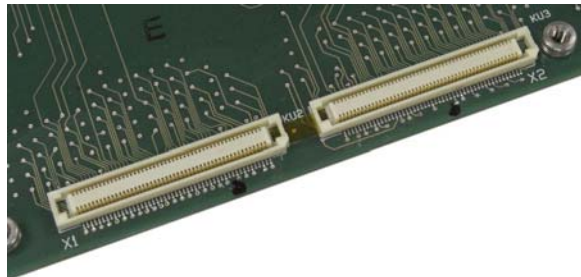
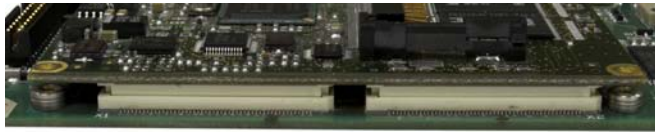

Figure 3-57: Close-Up View of ETX Connectors on Main PCB
Figure 3-58: ETX Board Resting on Connectors
- Position the ETX board over its connectors. Figure 3-57 shows two of the connectors, and Figure 3-58 shows a side view of the board resting on its connectors.